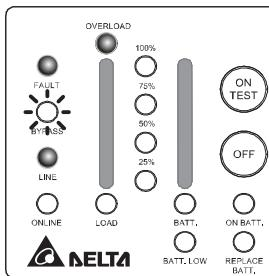

Figure 3-14 (Fan Fail)
- When the UPS fan is failure. It is show as Figure 3-14.